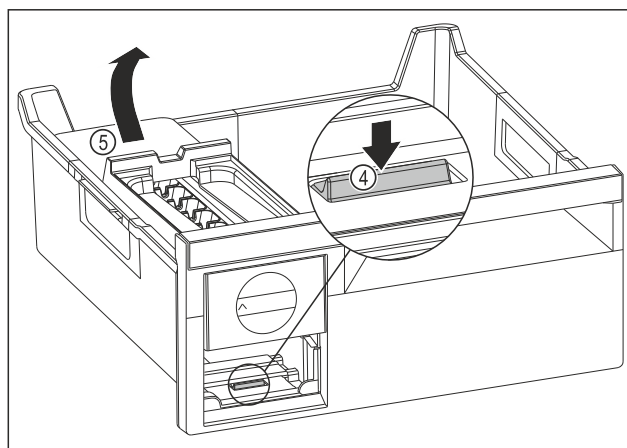

Fig. 85
- Removing the EasyTwist-Ice body: Use your finger to push the tab Fig. 85 (4) down and use your other hand to lift the EasyTwist-Ice body Fig. 85 (5) from behind at the same time.